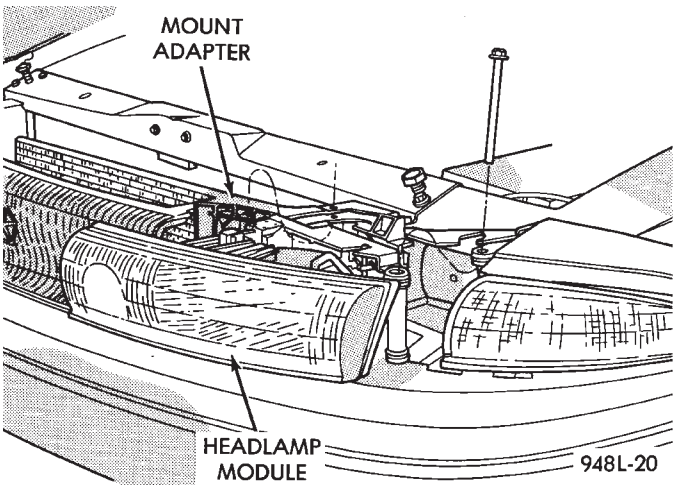

Fig. 2 Headlamp Module
- (1) Release hood latch and open hood.
- (2) Remove radiator closure panel sight shield as necessary to gain access to headlamp fasteners.
- (3) Remove screws holding headlamp module to mount adapter (Fig. 2).
- (4) Separate headlamp module from mount adapter.
- (5) Disengage wire connectors from headlamp and fog lamp.
- (6) Separate headlamp from vehicle.